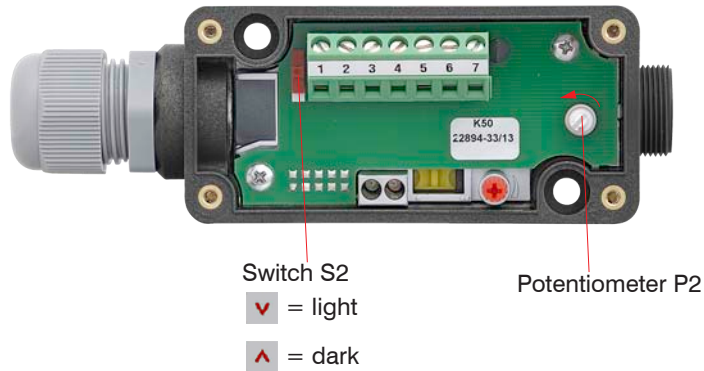

Fig. 20 Potentiometer P2 and switch S2
- Light or dark switching is selectable with switch S2, see Fig. 20.
- Pulse stretching is selectable with the potentiometer P2 by turning clockwise, see Fig. 20.